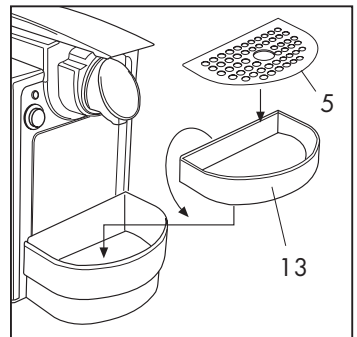

Fig. 6
The grid can be adjusted (5) to two different heights, depending on the size of the cup (or mug) that you intend to use. This is achieved by turning the support (1 3) upside-down and putting the grid back to its place (5) **(Fig. 6)**